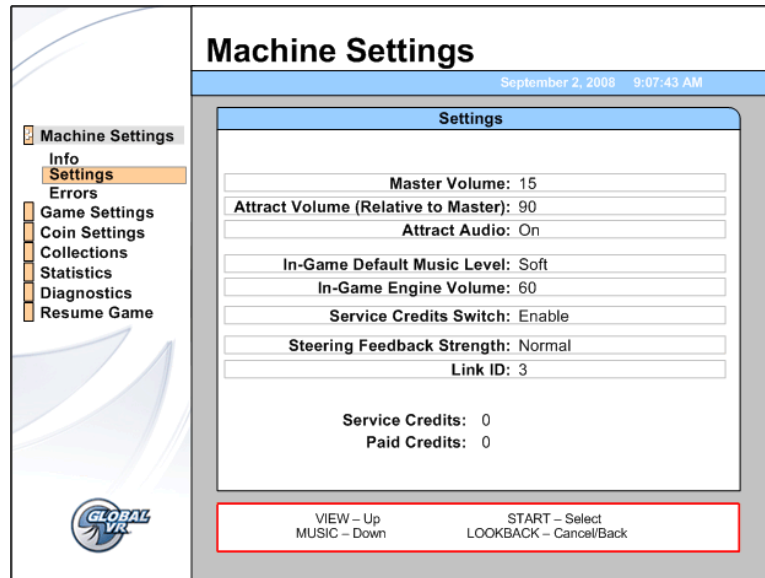

Figure 9. Machine Settings Menu
6. Some menu items, such as volume levels (see Figure 9 on page 17) use sliders to set numeric values. A slider, as shown below, will appear when you highlight the item and press **START**. To set the slider, press the **VIEW** and **♪** buttons to increase or decrease the value, and then press **START** again to save the selected value.